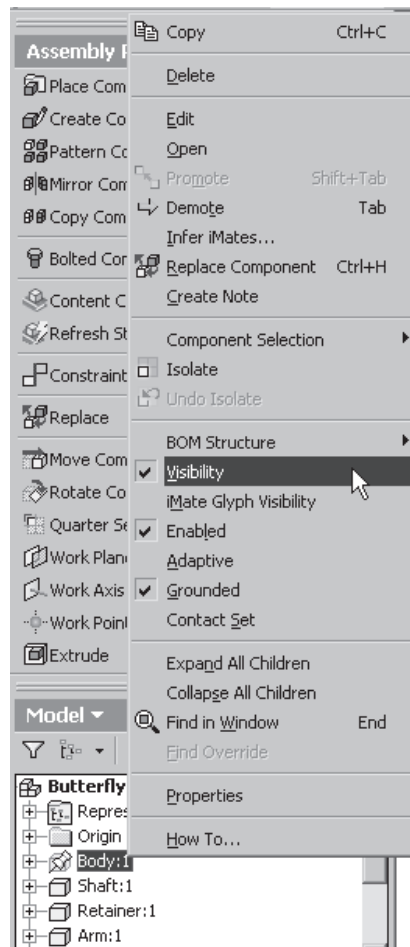

Figure 8-43 Turning off the display of the Body
1. Right-click on the Body in the browser to display the shortcut menu. You will notice that in the shortcut menu, there is a check mark in front of the **Visibility** option, see Figure 8-43. This suggests that the display of this component is turned on. Choose the **Visibility** option again to turn off the display of the Body.